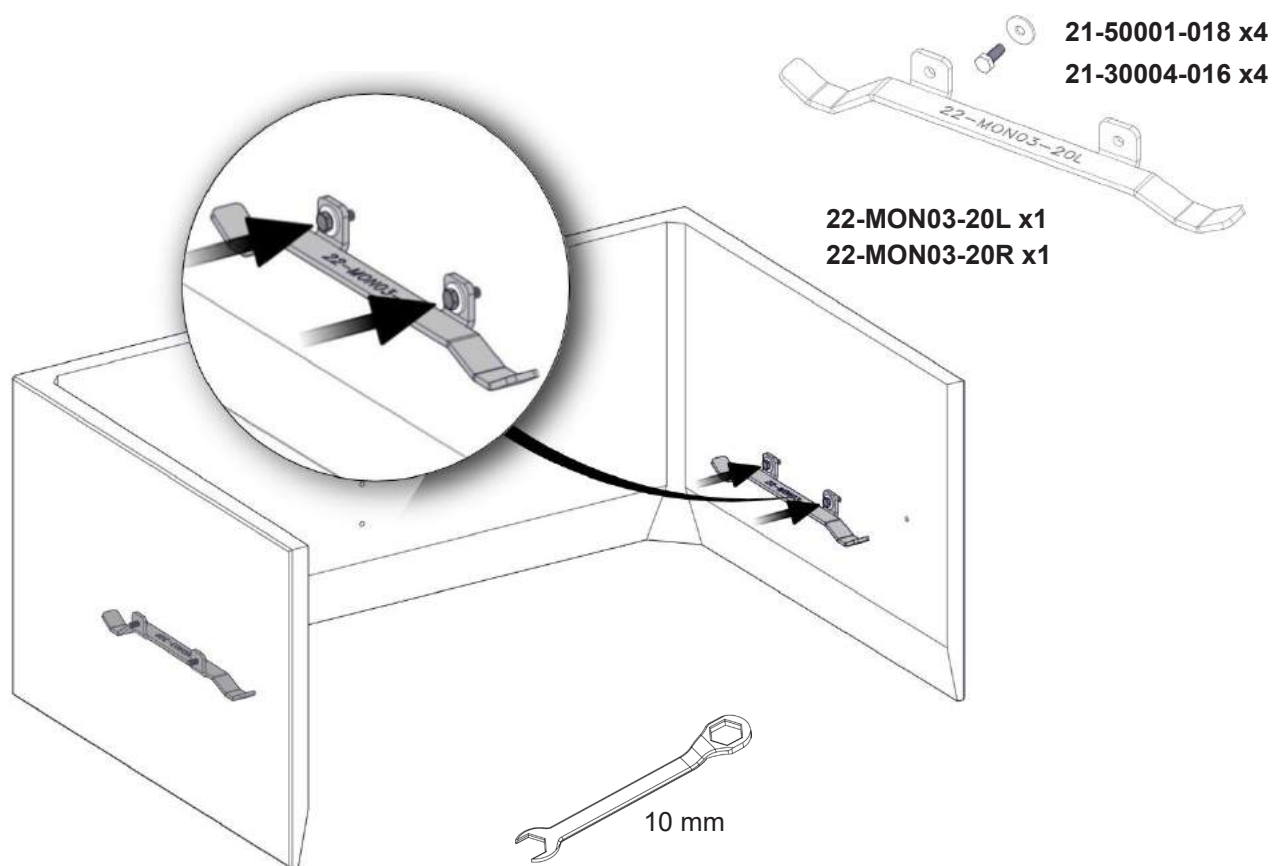

**FIG 11**
**FIG 11 a** Davos A Low\_N-29A
**FIG 11 b** Davos A Low\_N-29A
FIG 11 c Davos A Low\_N-29A